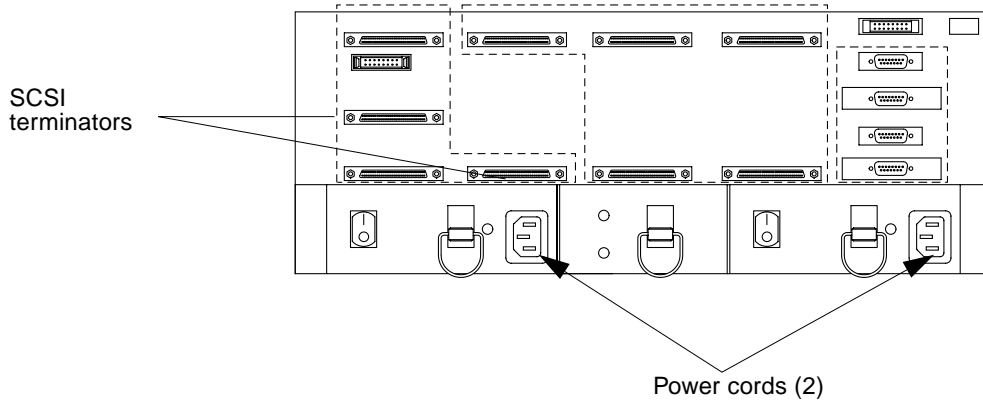

FIGURE 5-2 SCSI Cables and Power Cords on Back of SCSI Controller Module
4. **Disconnect both power cords from the controller module (FIGURE 5-2).**
5. Disconnect all SCSI cables and terminators from the controller module (FIGURE 5-2).